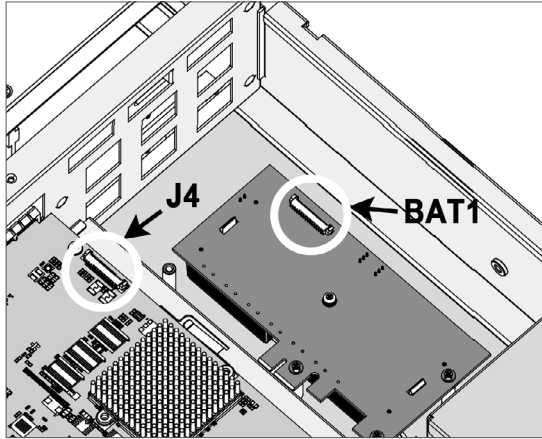

Figure B-8, Insert the cable connector into BAT1 & J4
3. Insert the cable connector into the **BAT1** (14-pin box header battery connector on ARC-1883-BAT/CAP module), and also insert another side of the cable connector into the **J4** (14-pin box header battery connector on ARC-5088 backplane), as shown in Figure B-8.